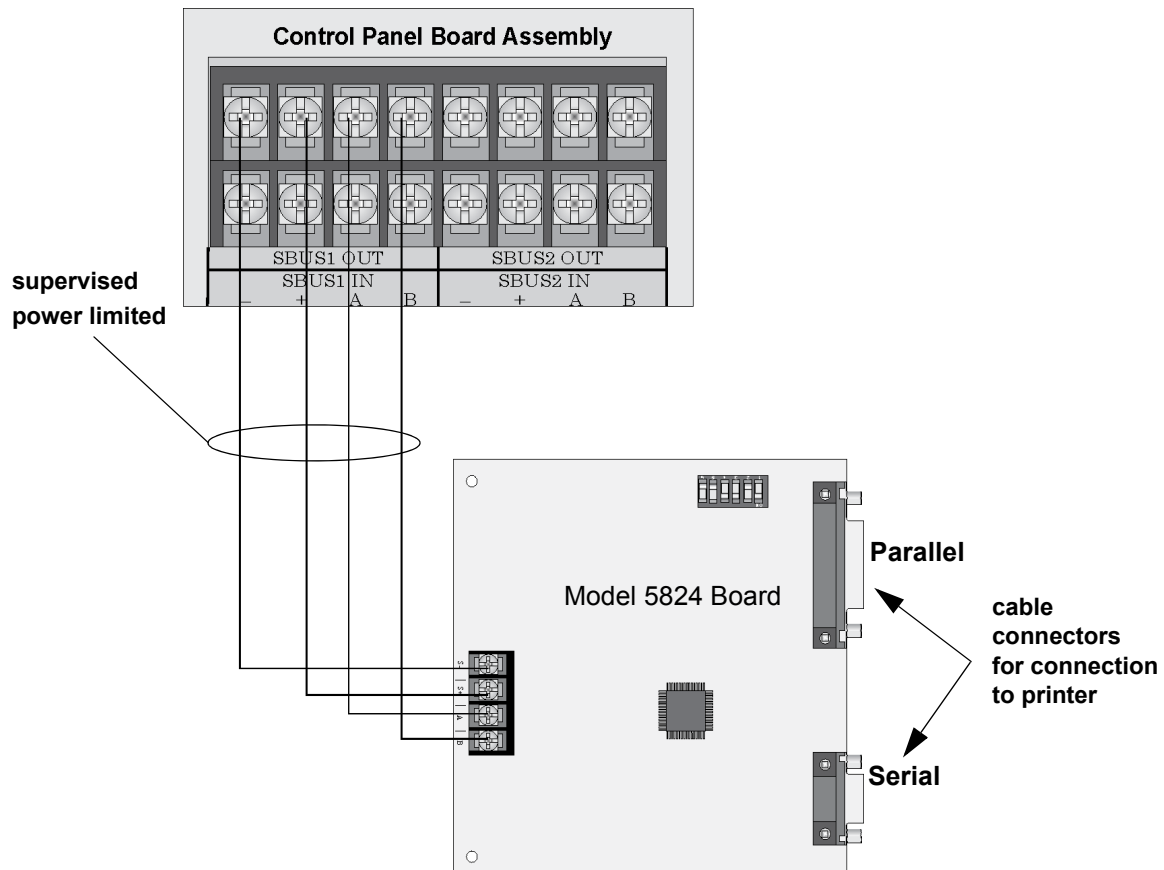

Figure 4-19 5824 Connection to the Panel
2. Connect the 5824 to the panel as shown in Figure 4-19.